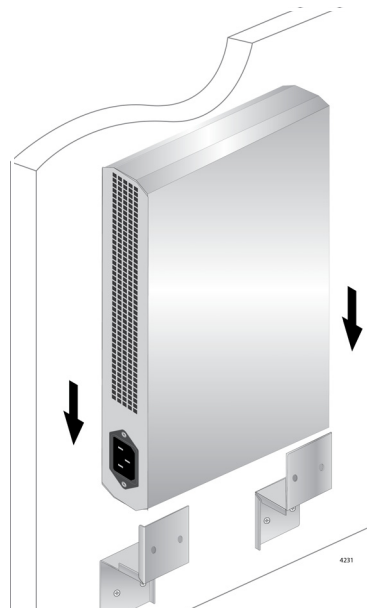

Figure 49. Placing the Switch into the Brackets
8. Slide the switch into the brackets on the wall as shown in Figure 49.